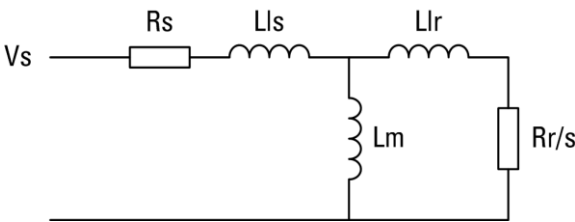

Figure 21 AC motor single-phase equivalent circuit
- A value for each of the electrical parameters of the induction motor as shown in Figure 21.